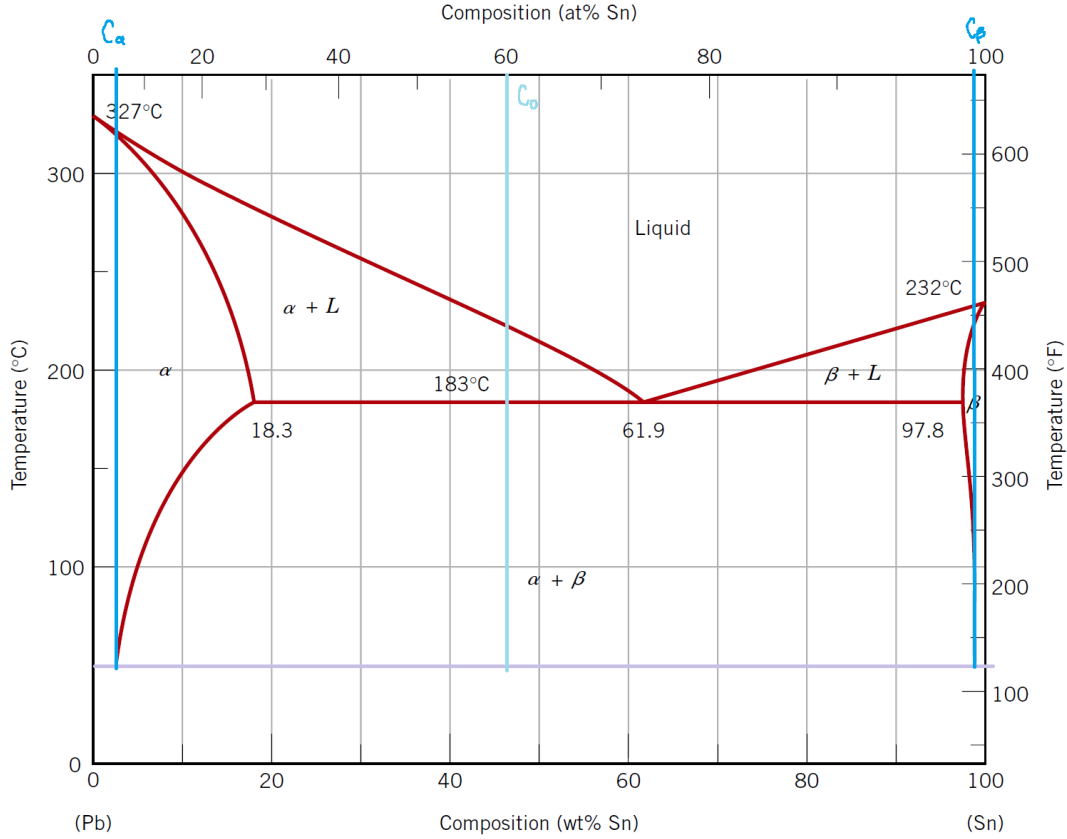

Figure 1: Phase diagram for lead-tin
The phase diagram for an alloy of Pb and Sn is shown in figure 1. The temperature and composition are located in the diagram, the composition  $C_0$  corresponds to a 60% of Sn and 40% of Pb. From the figure, it can be seen that for a temperature of 50°C there is presence of two phases,  $\alpha$  and  $\beta$ . From the isothermal of the temperature it is possible to obtain the values of the compositions for each phase by intersecting the isothermal line with the boundaries of the phase diagram, which gives the following results:
Using the values of the compositions obtained from the phase diagram in figure 1, the fractions for  $\alpha$  and  $\beta$  phases are calculated using equations (1) and (2):